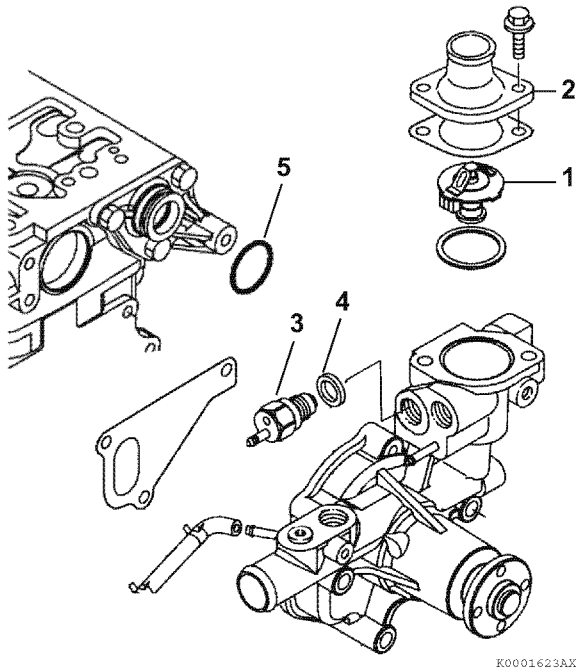

Figure 8-13
1. Reinstall the thermostat (1, **Figure 8-13**) and a new O-ring.
2. Reinstall the thermostat cover (2, **Figure 8-13**) and a new gasket. Tighten the thermostat cover bolts.
3. Reinstall the temperature switch (3, **Figure 8-13**) and a new gasket (4, **Figure 8-13**).
1. Position the engine coolant pump on the engine and install a new gasket. Install a new special O-ring (5, **Figure 8-13**) on assembly between the engine coolant pump and the joint.